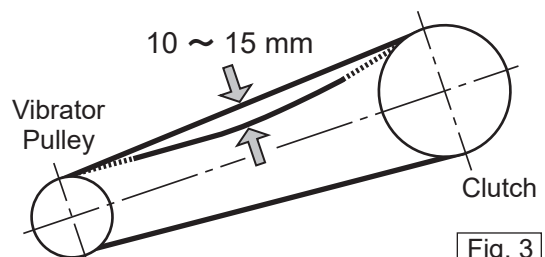

Fig. 3
2. Check the V-belt tension. The V-belt tension is proper if the V-belt bents 10 to 15 mm when depressed with finger at midway between the clutch and vibrator pulley. (Fig. 3)